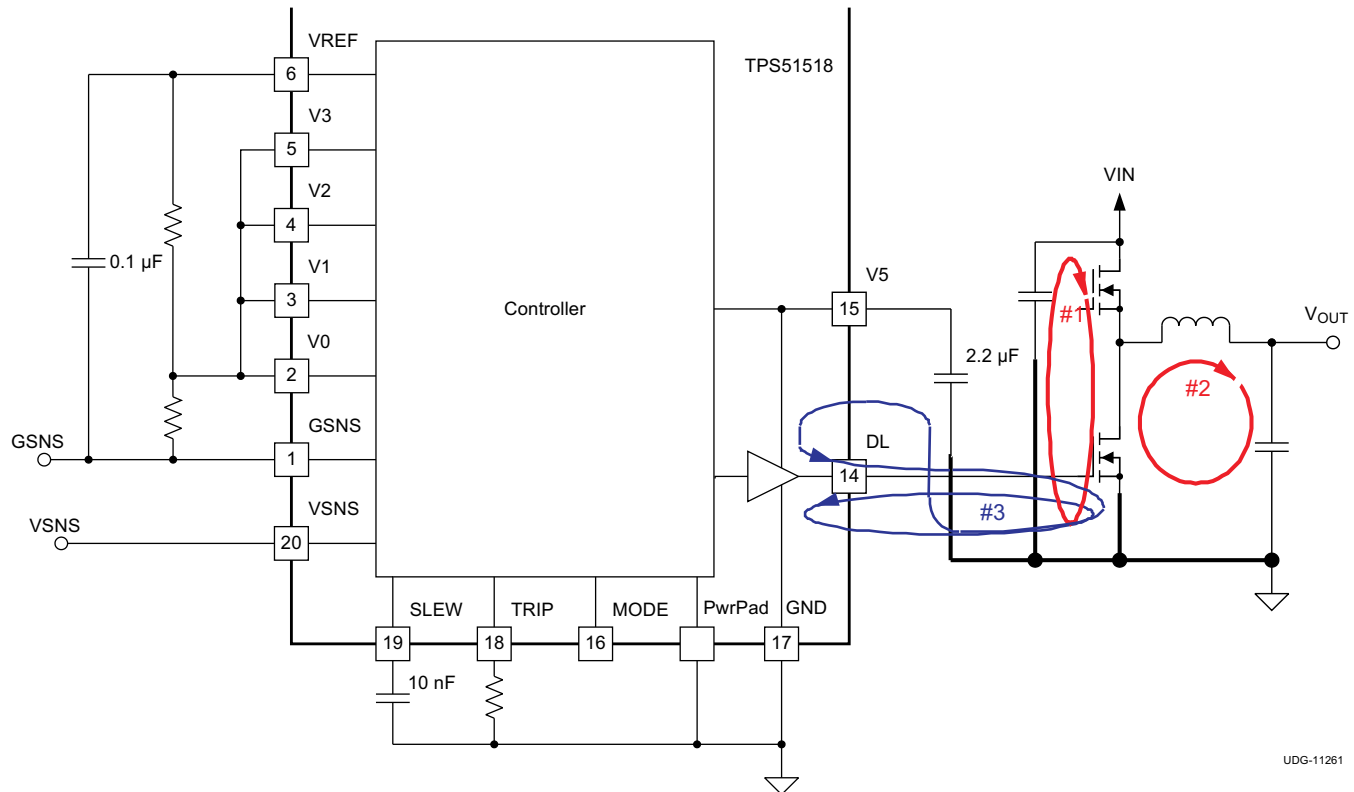

Figure 26. DC/DC Converter Ground System
- Loop #1. The most important loop to minimize the area of is the path from the  $V_{IN}$  capacitor(s) through the high and low-side MOSFETs, and back to the capacitor(s) through ground. Connect the negative node of the  $V_{IN}$  capacitor(s) and the source of the low-side MOSFET at ground as close as possible. (Refer to loop #1 of Figure 26)
- Loop #2. The second important loop is the path from the low-side MOSFET through inductor and  $V_{OUT}$  capacitor(s), and back to source of the low-side MOSFET through ground. Connect source of the low-side MOSFET and negative node of  $V_{OUT}$  capacitor(s) at ground as close as possible. (Refer to loop #2 of Figure 26)
flows from gate of the low-side MOSFET through the gate driver and PGND, and back to source of the low-side MOSFET through ground. Connect negative node of V5 capacitor, source of the low-side MOSFET and PGND at ground as close as possible. (Refer to loop #3 of Figure 26)